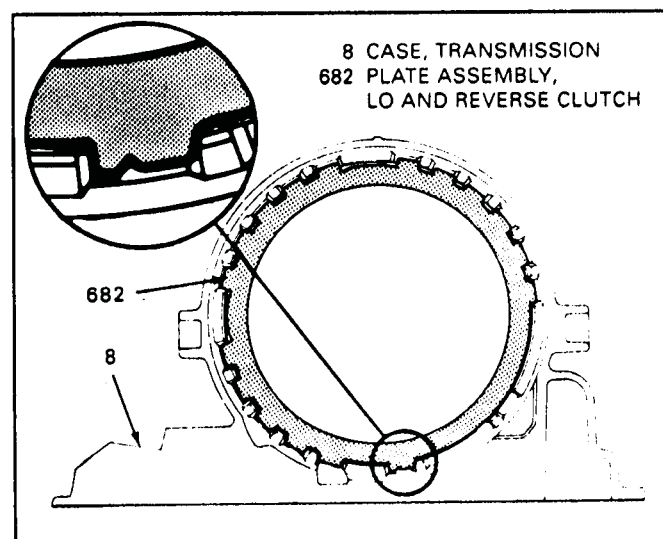

Figure 73
4. Index the external teeth of the steel plates in the case as shown in Figure 73.